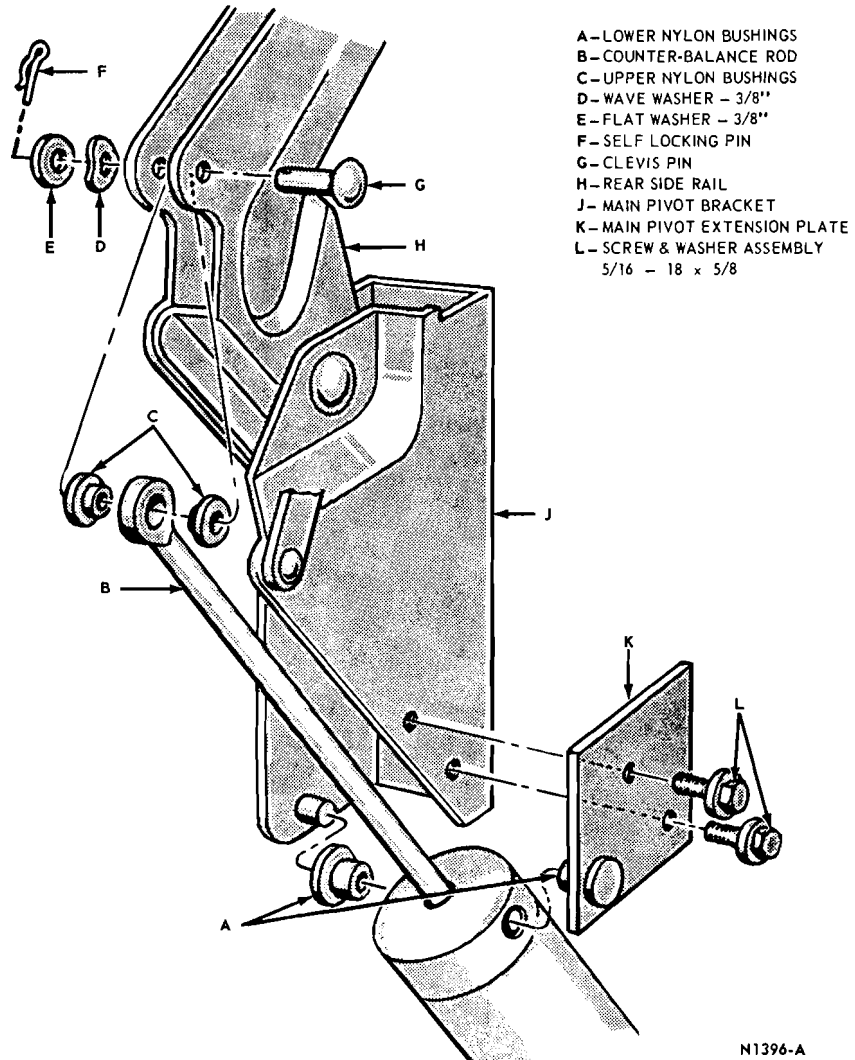

FIG. 8—Counterbalance Cylinder Installation—Mustang
4. Remove the self locking pin F, Flat washer E, wave washers, and clevis pin G (Fig. 8). Disengage the counterbalance rod B from the rear side rail H (Fig. 8).
the main pivot extension plate K from the main pivot bracket J (Fig. 8), and remove the counterbalance spring assembly. Keep the upper and lower nylon bushings A and C for reuse if serviceable.